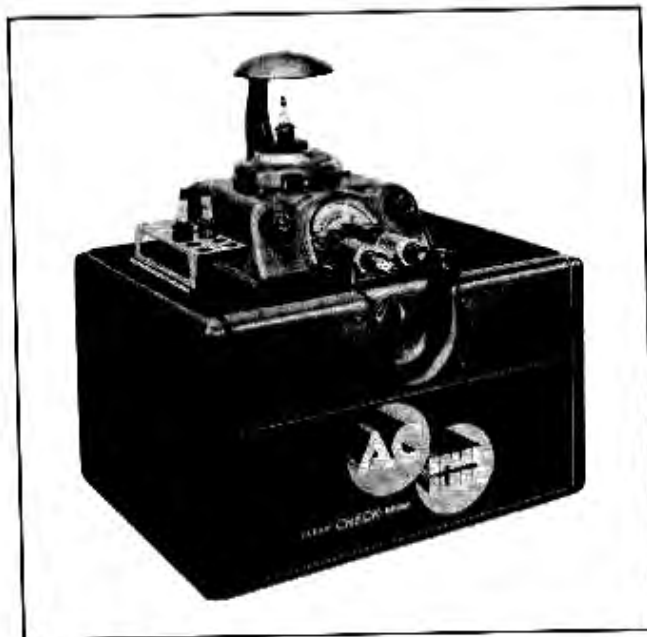

Fig. 12-51 Spark Plug Cleaner and Indicator
1. **Dirty**—The lower end of the spark plug insulator becomes coated under operation with an oxide deposit. This deposit is a conductor of electricity (especially when heated), and when occurring in sufficient quantity, will cause missing. The deposit may occur at various mileages depending on operating conditions and is usually brown in color, although sometimes it is yellow or white. Plugs with this oxide coating on the lower end are not defective and replacing them is needless. Fouled and dirty or oxide coated plugs can be thoroughly cleaned without injuring the insulator by use of the AC model "A" Spark Plug Cleaner and Indicator (Fig. 12-51) or similar equipment. **NOTE:** Excessive cleaning of spark plugs to remove heavy deposits, will erode the insulator tip, and lower the heat range of the plug. Heavily coated plugs should be replaced.